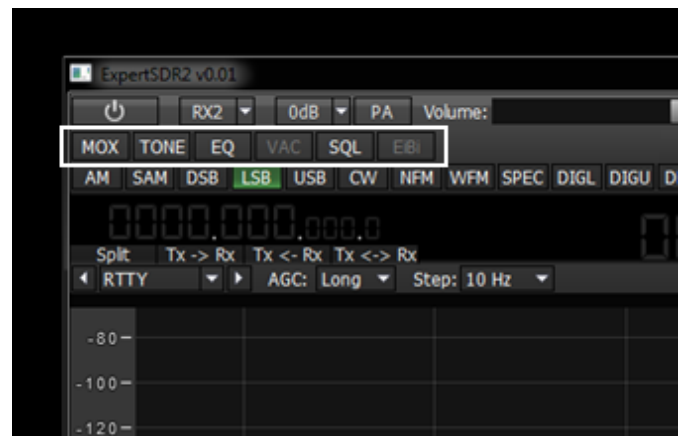

Figure 8.10 – Secondary regulations buttons
- In the place showed below, in Figure 8.10, there are rare use functions buttons shortcuts. They are SQL button, transmitting button - «MOX», virtual audio cables setting and equalizer menu.